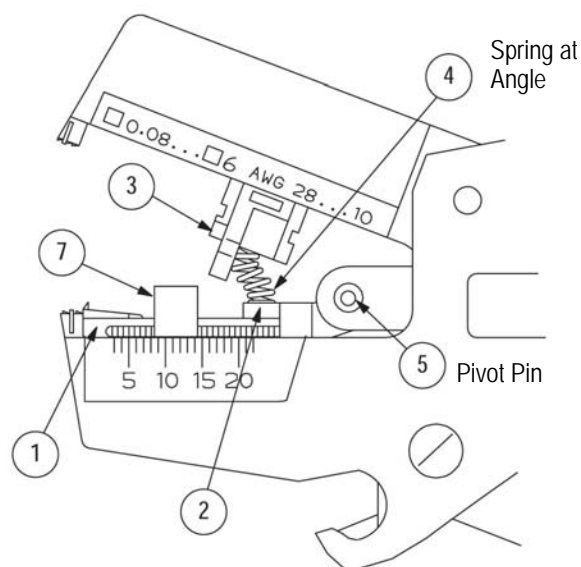

Figure 6
5.2. Jaw Installation (Figure 6)
- Insert the spring into the upper stripping jaw by bending it at an angle as shown in Figure 6.